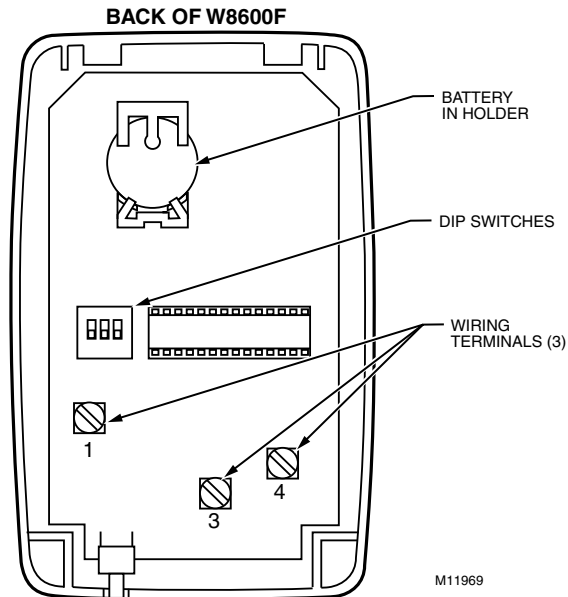

Fig. 10. Back of W8600F.
Refer to Table 2 to select the wash frequency. Set the W8600F DIP switches to match the selection. See Fig. 10. The time listed represents actual run time of the EAC, not calendar days.
2. Connect the wires to terminals 1, 3 and 4 on the W8600F. See Fig. 10.